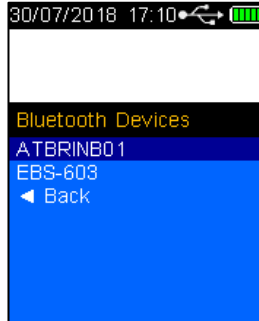

Figure 96 – Bluetooth Devices
- Select the Bluetooth device which HH4 require to be paired (Refer to Figure 96).